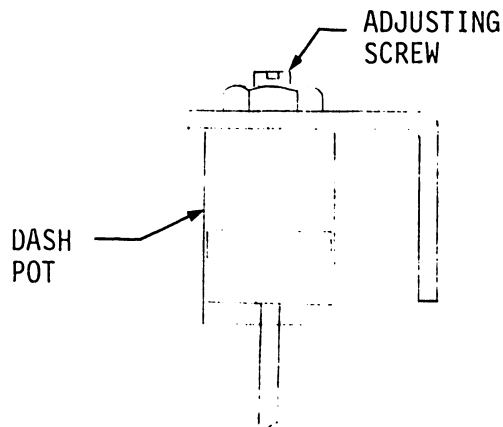

FIGURE 15
- 2) The dash pot screw should be turned clockwise until a broken line is generated by the program. Slowly turn the screw counterclockwise until the line becomes solid again. See Figure 15.